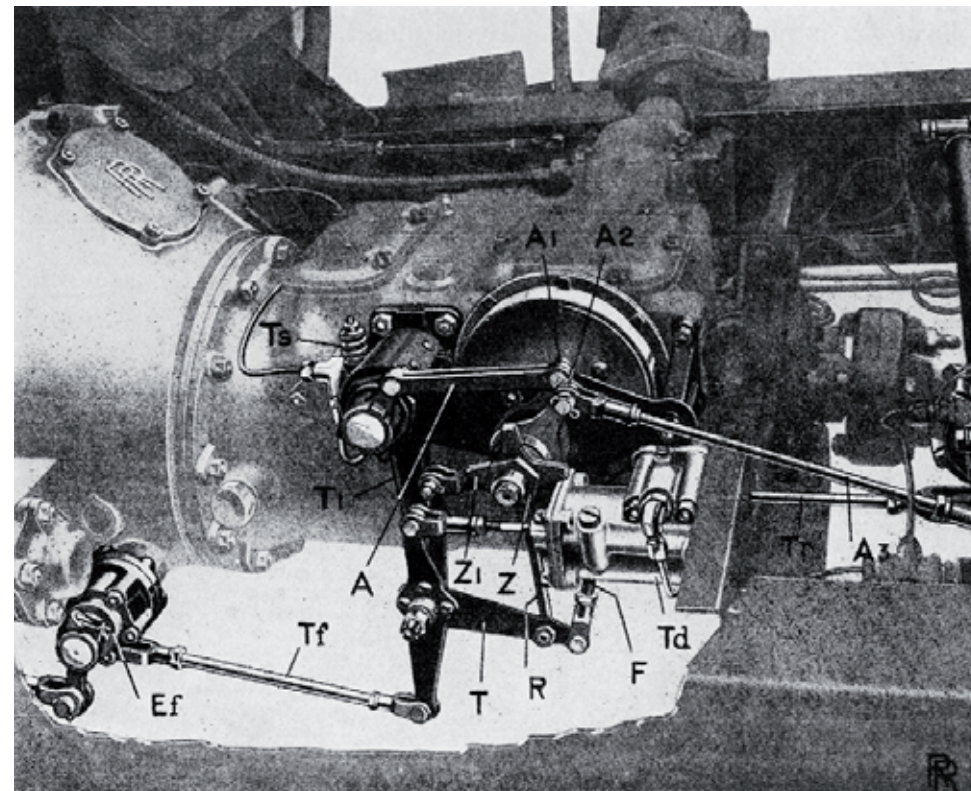

Fig. 19. - THE SERVO MOTOR AND ITS CONNECTIONS.
3. Servo The serrated adjusting nut on the end of the servo shaft (Z, Fig. 19).